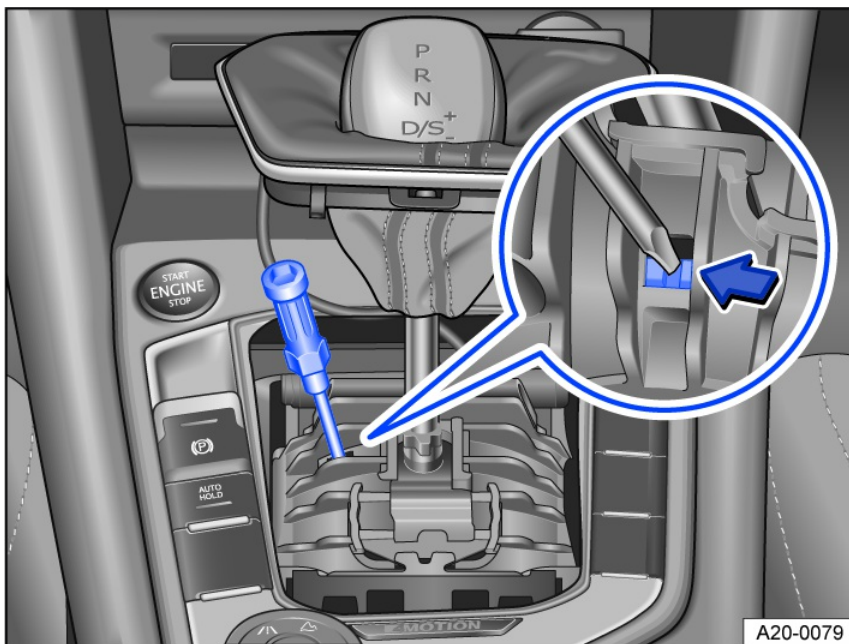
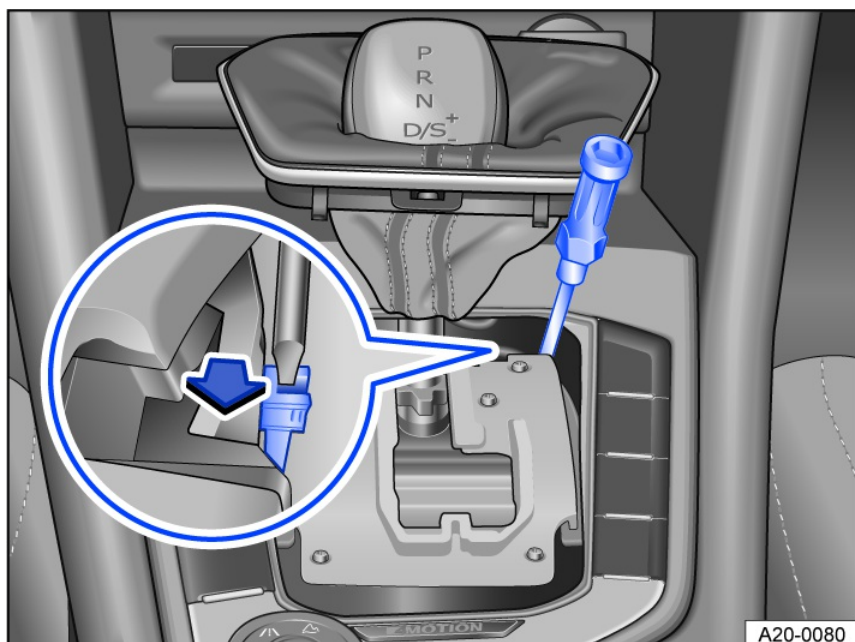

Fig. 94 Manually release the Automatic Shift Lock (ASL) (variant 1).
Fig. 95 Manually release the Automatic Shift Lock (ASL) (variant 2).
3. Pull the cover near the selector lever boot upward carefully with the wires connected fig. 94 or fig. 95.
1. Press the release lever in the direction of the fig. 94 or fig. 95 arrow and hold in this position.